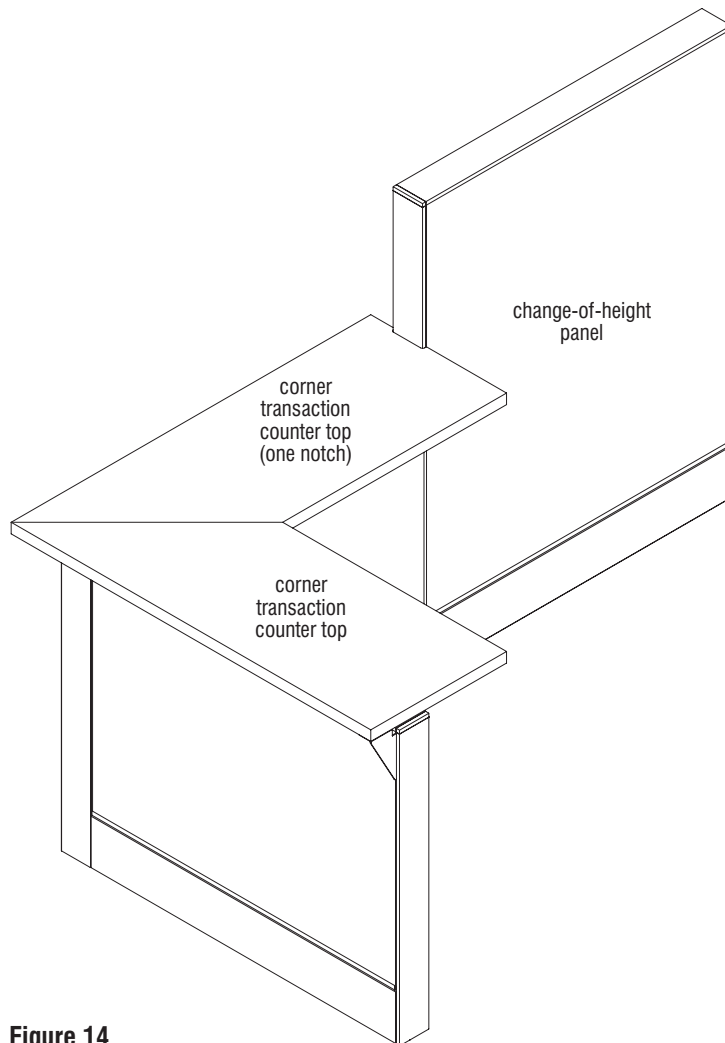

Figure 14
1. If a corner transaction countertop is specified for installation adjacent to a taller Unite Panel, the countertop will be supplied with a notch to accommodate the end-of-run trim of the taller panel (Figure 14). A corner countertop designed to install between two adjacent taller Unite Panels will have a notch at both ends (not shown).